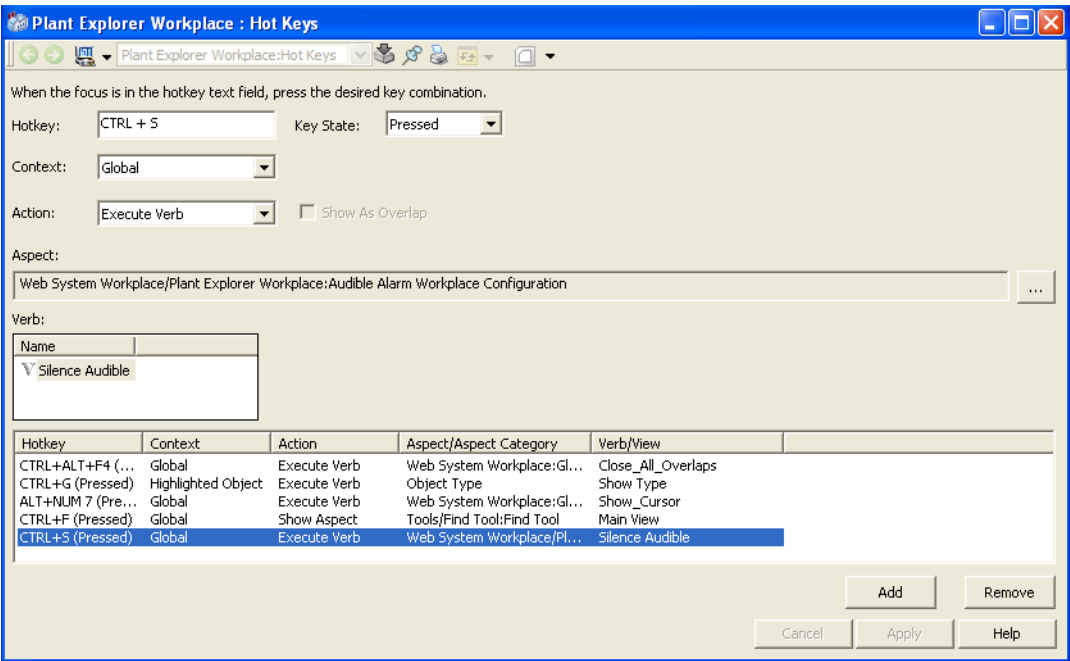

Figure 31. Hot Key Aspect
3. Select hot key combination in the **Hotkey** text field. See Figure 31.